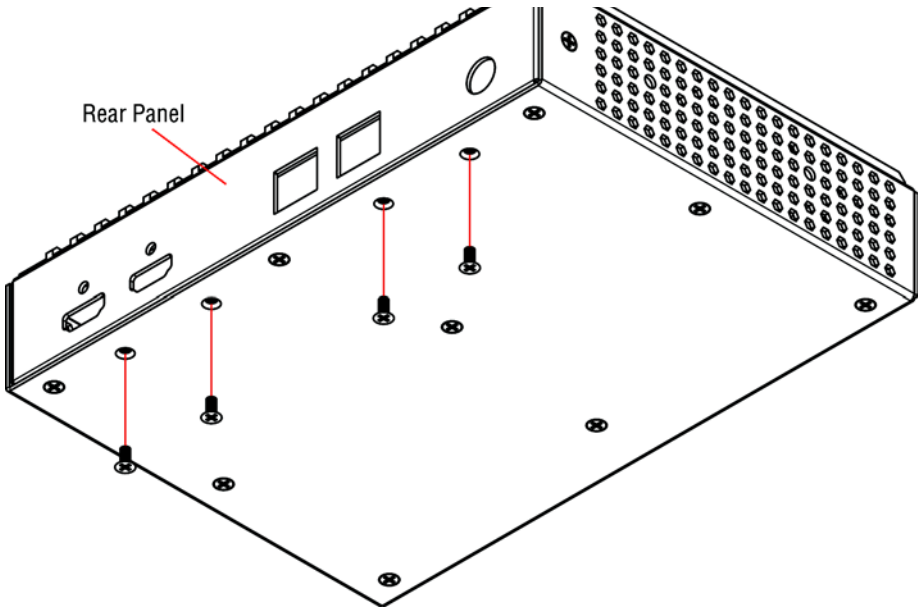

Figure 6. Removing the 4 screws from the underside of the device
1. Remove 4 screws from below the rear panel as shown in figure 6.